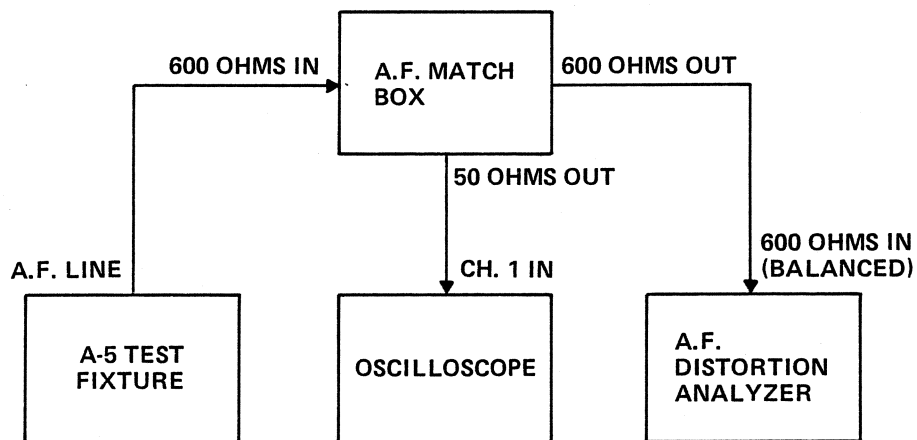

Figure 6-9. Equipment Set-Up Diagram, AF Output Level Check
2. Connect the AF Distortion Analyzer to the RED terminals on the test fixture using the AF Match Box. Use the Voltmeter position of the AF Distortion Analyzer. See Figure 6-9.